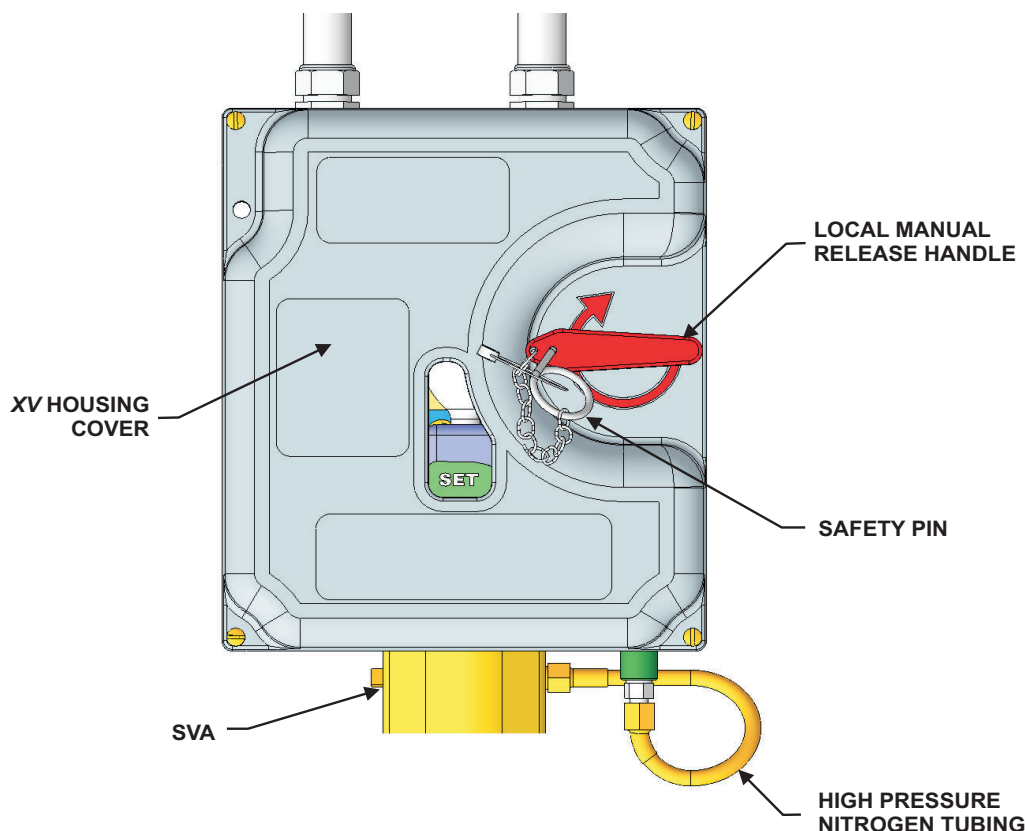

Figure 5-14. XV Control System, Cover Attached
2. Locate the cover of the XV Control System. Ensure that the local manual handle is set and that the Safety Pin is inserted (see Figure 5-14). The handle should be locked in the set position. If the handle can turn, adjust until the pin can be inserted all the way through the handle into the body of the cover.